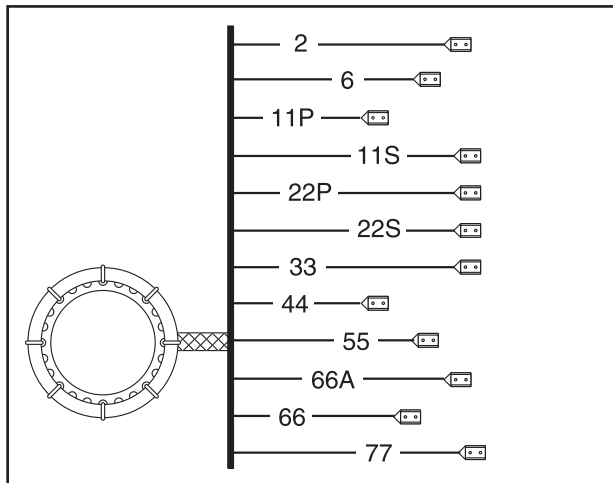

Figure 3 Stator Assembly Leads
The stator can houses and retains (a) dual AC power windings, (b) excitation winding, (c) battery charge winding and (d) engine run winding. A total of twelve (12) stator leads are brought out of the stator can as shown in Figure 3.